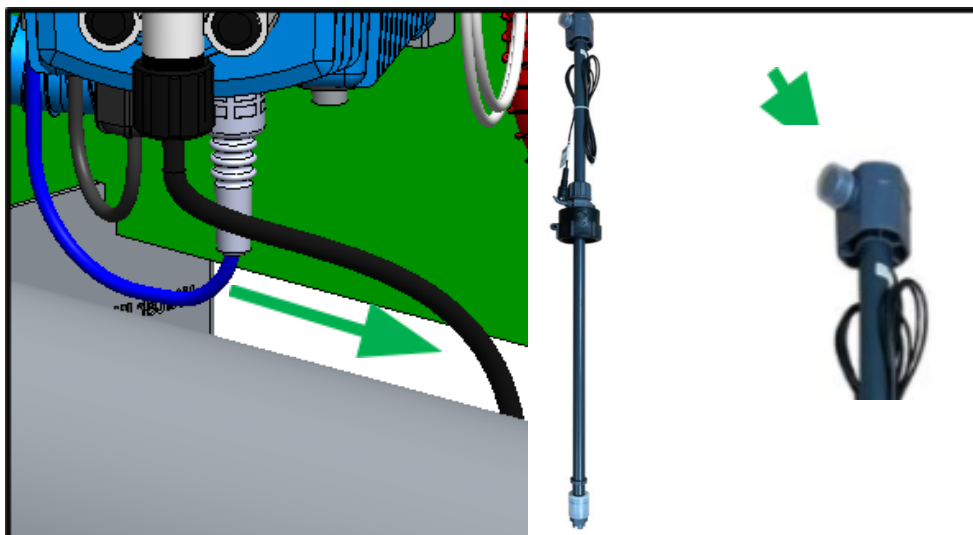

Figure 10
1. Connect the cable with the black connector (see Figure 10).
3. Route the hose behind the mixing tank to prevent kinks or obstructions (see Figure 10).